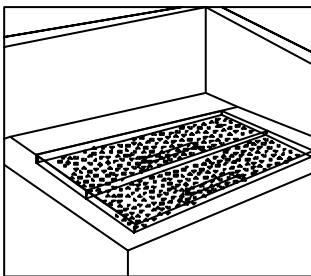
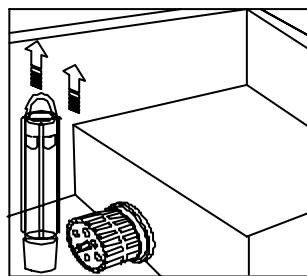
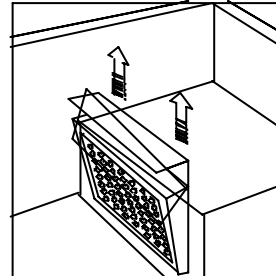

Figure 18
Figure 19
Figure 20
- The washing arms are not blocked. Remove them as shown in figure 18, clean them if necessary and put them back.
- The tray (Figure 18) and the filter (Figure 19 and Figure 20) are not blocked and they are suitably fitted.